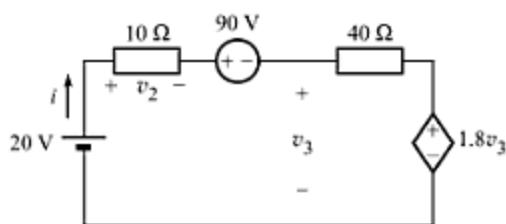

Fig. A-96
- A-60. Find i_1 in the circuit of Fig. A-96.